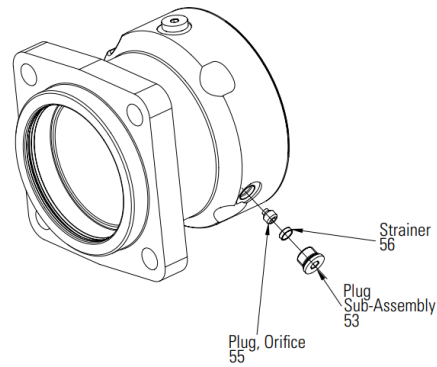

Figure 40
4. Replace plug orifice with plug w/o orifice and remove strainer as shown in Figure 40